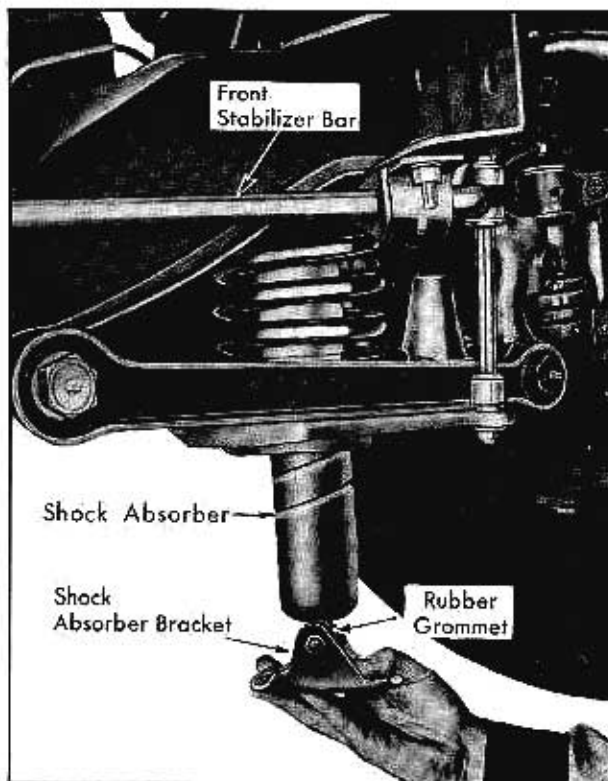

Fig. 6-18 Front Shock Absorber Removal
3. Remove shock absorber and lower bracket from spring assembly, Fig. 6-18.